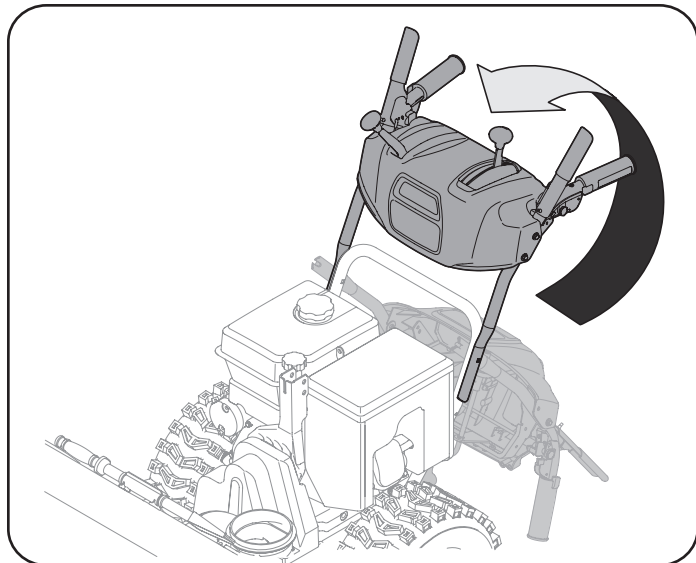

Figure 5
- Pull up and back on upper handle as shown in Figure 5. As you are raising the handle upward, make sure that both ends of the center cable are positioned properly in the brackets. Align upper handle with the lower handle.